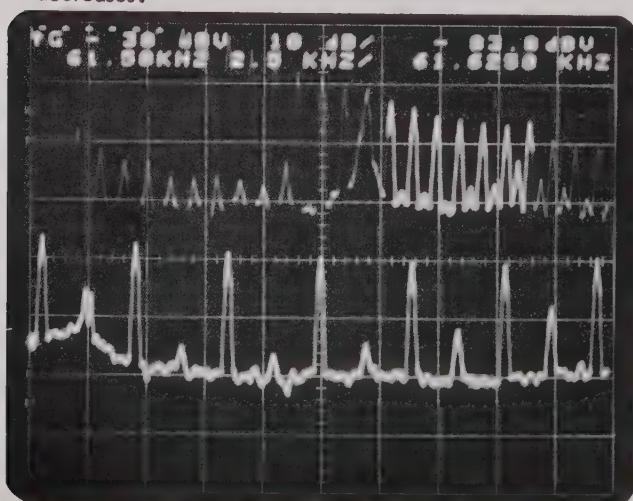

Fig. 4-15b Effects of Smoothing; Smoothing: 32 (12 o'clock position)
- d. Rotate SMOOTHING to the twelve (12) o'clock position, corresponding to smoothing time constant equal to thirty-two (32) independent spectra. The ON LED will flash indicating that linear averaging is being performed. When the LED glows steadily, the SMOOTHING has switched to the exponential averaging mode (Fig. 4-15b). Repeat the process. Press START/STOP twice; once to STOP the processing, the second to reinitiate it. Note how the spectrum initially appears at its full scale amplitude and is noisy. As processing continues, the variation in noise amplitude decreases.